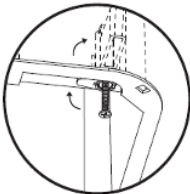

figure 1
4. Connect the ducting if required to the outer grille of the unit. Insert the unit into the square hole being sure to pull the side clips inward so that the body can pass through the hole without damaging the plaster. Rotate the swing clips to hold motor body in place (figure 1) then tighten screw to let the clip clamp onto the ceiling board (figure 2).